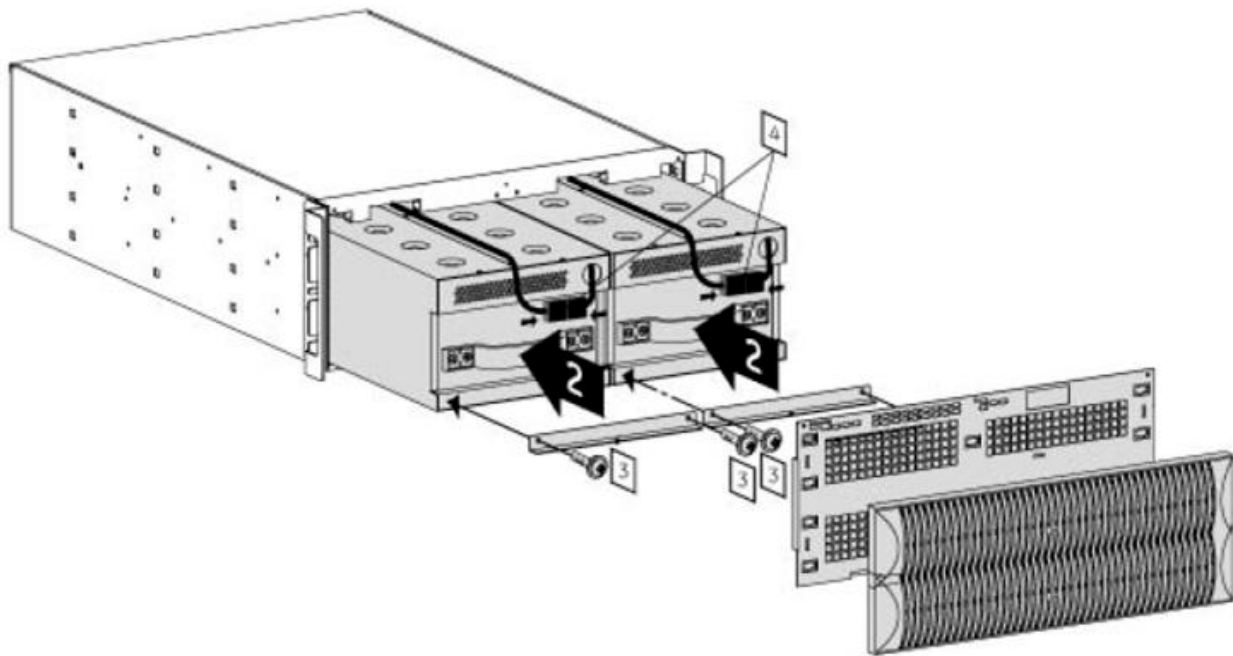

FIG 22 – XPRT-10KVA BP5 BATTERY TRAY INSTALLATION
2. Place the battery trays side by side in the battery compartment (see FIG 22)
3. Fix the 2 battery brackets with the screw set to hold battery trays into the battery pack (see FIG 22)
4. Connect the DC connectors of each battery tray (see FIG 22)